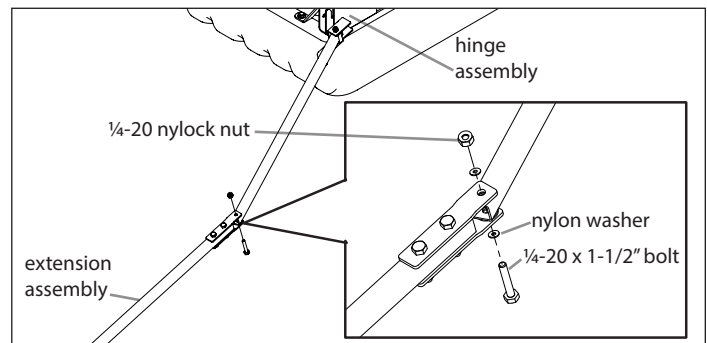

FIGURE 9
13. Attach the extension assembly (15542/15540) with the skin to the pivot tube on the hinge assemblies (11652/11653) using (2) ¼-20 x 1-1/2" bolts, (4) nylon washers, and (2) ¼-20 nylock nuts. **SEE FIGURE 9**